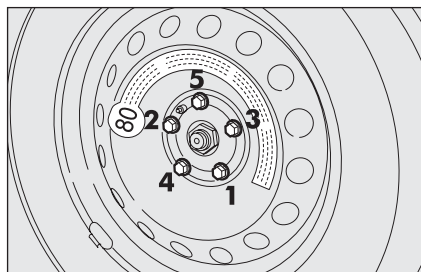

fig. 8
- ☐ Use the wrench provided to fasten the bolts completely in a criss-cross fashion according to the sequence shown in **fig. 8**.
- ☐ lower the car and remove the jack, then, using the wrench provided tighten the bolts according to the sequence previously shown for the space-saver spare wheel **fig. 8**.